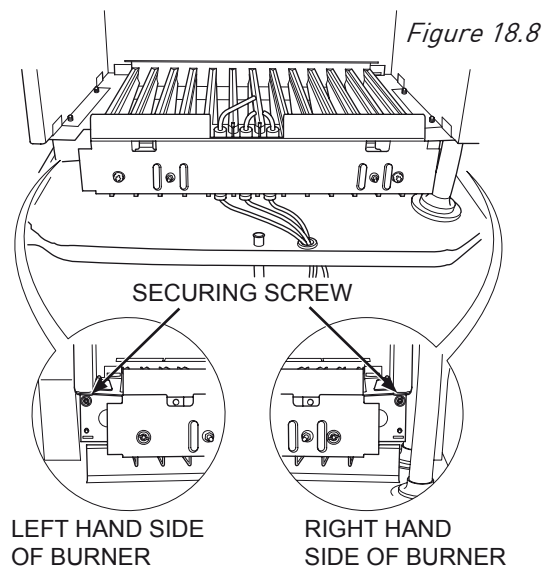

Figure 18.8
- Remove the manifold as shown in Figure 18.8.